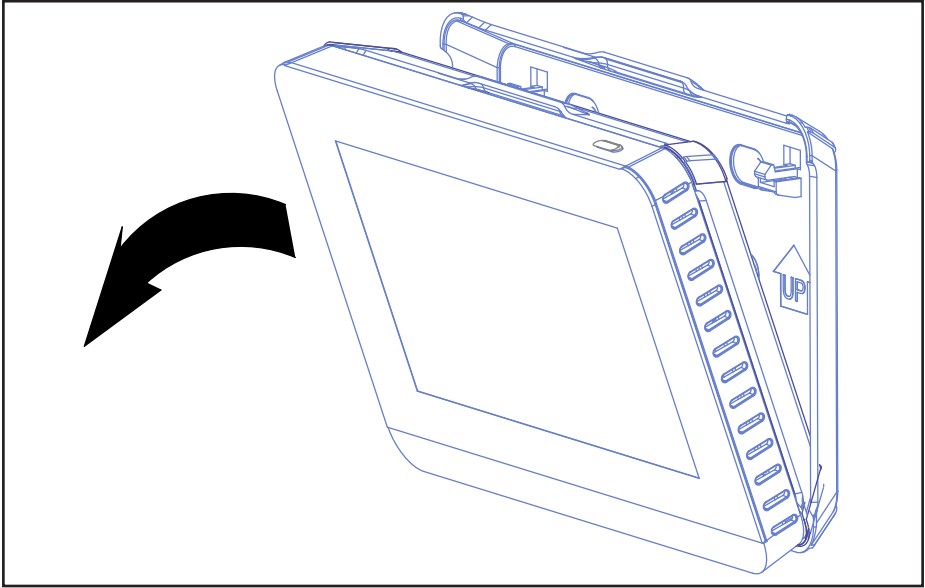

Figure 3. Remove Back Cover from Controller
1. Remove the back cover from the controller. See Figure 3.